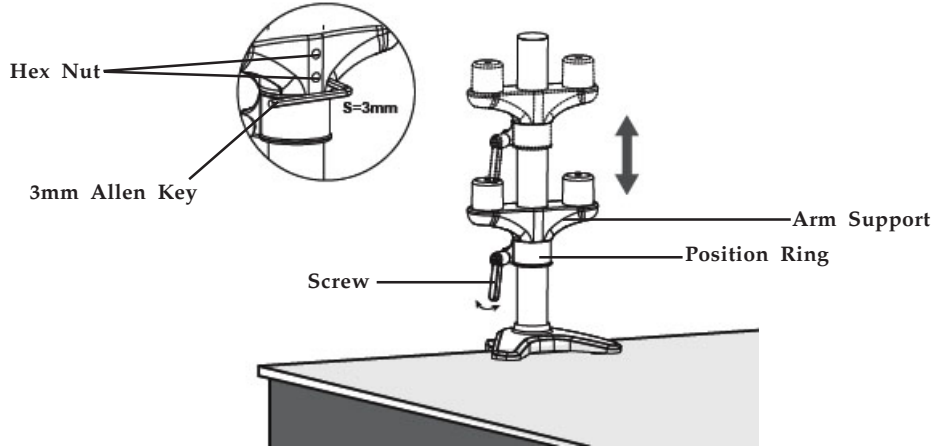

Figure 11
- 2-1. Install the **Position Ring** at the desired height and tighten the **Screw**, see **Figure 11**. Move the **Arm Support** so it rests on the Position Ring and tighten the **Hex Nuts** finger tight with a **3mm Allen Key**, see Figure 11.